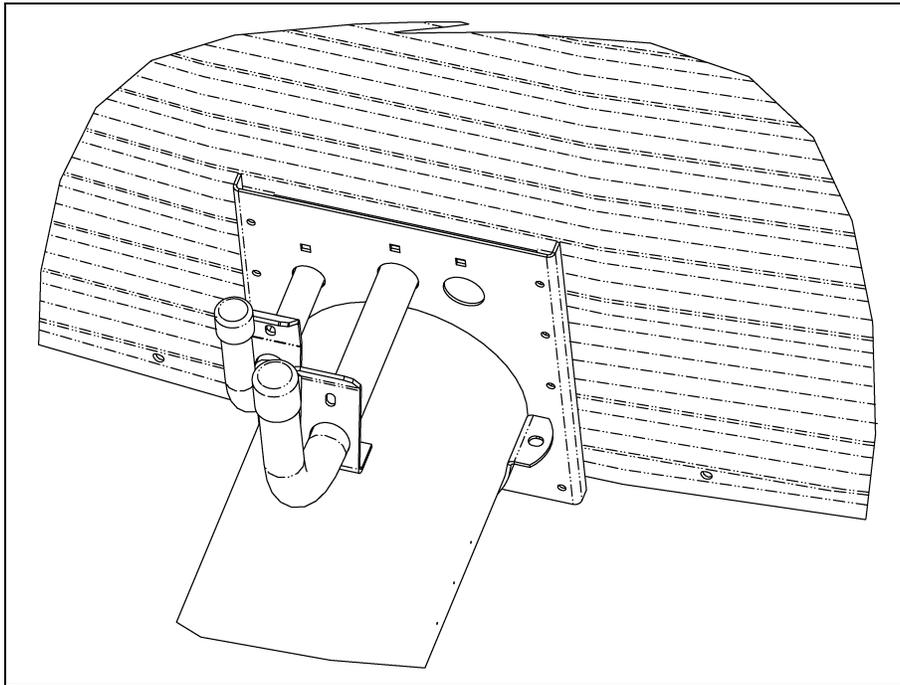

Figure 5O
14. Place the latches onto the slide gate, intermediate sump (if used) and shift lever tubes. Then insert the tubes into the bin wall plate holes, through the support rings on the auger tube. Next, put the slide gate tube through the end of the sump and attach to the slide gate using two (2) 5/16" x 2" hex bolts and lock nuts. Connect the shift lever tube to the offset shift tube with the connecting sleeve using one 5/16" x 1-1/2" grade 5 bolt and lock nut. (See Figure 5O, Figure 5P below and Figure 5Q on Page 23.)